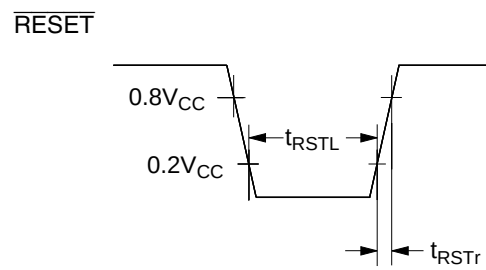

Figure 79 $\overline{RESET}$ Timing
- Refer to figure 79.
4. Refer to figure 79.